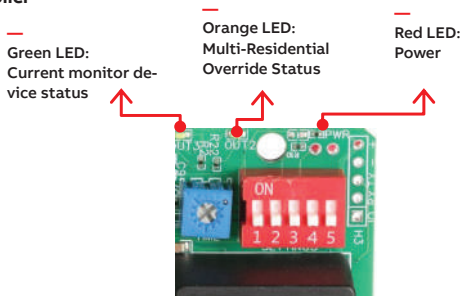

Figure 4 - This image is for illustrative purposes only and may not accurately represent the customer's installation.
- 2- Ensure the red LED (PWR) is on, indicating power. (See Figure 4.)
- 3- Verify the green LED on the left-hand side (OUT1) corresponds to the state of the contactor (See Figure 4). If the green LED on the left-hand side flashes continuously, it indicates that there is no current being measured by one or both current monitors.